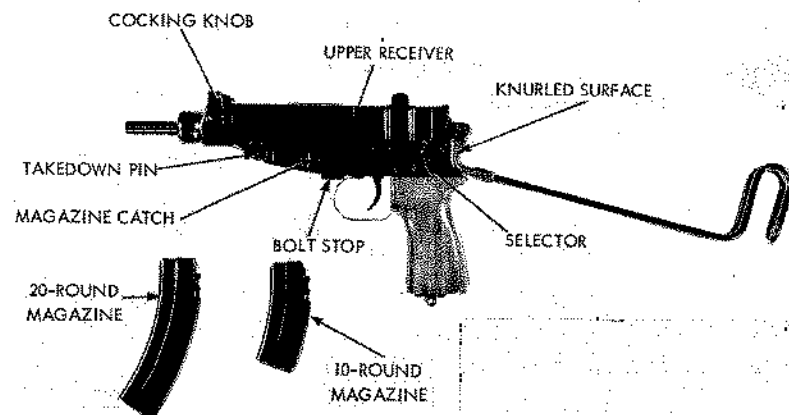
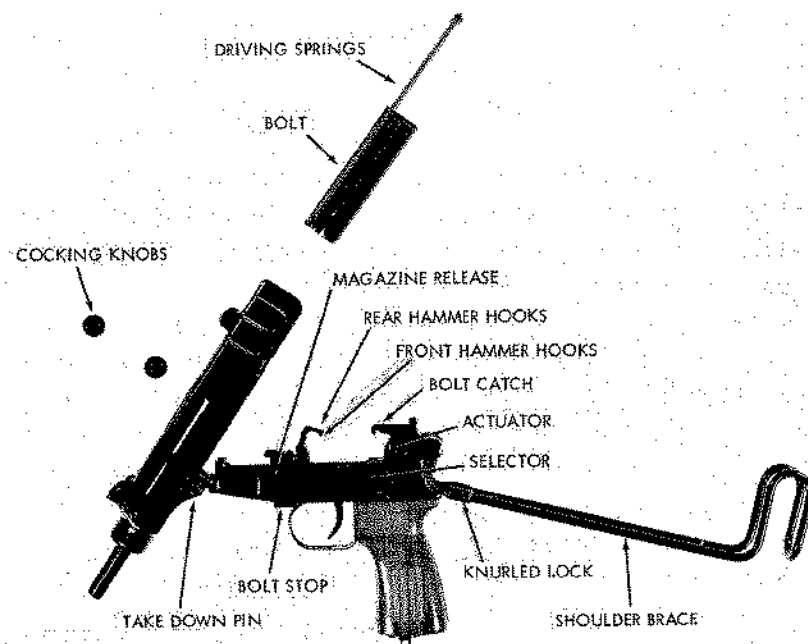

Figure 25. Czechoslovak Vz61 "Skorpion" machine pistol
Figure 26. Vz61 disassembled.
The Czechoslovak 7.65-mm Vzor 61 machine pistol (fig 25) Skorpion used by the Czechoslovak Army and Security Forces has also been offered for sale to other countries. This machine pistol, a blowback-operated, selective-fire weapon that uses 10- or 20-round box magazines, is equipped with a folding wire shoulder brace. The Skorpion, because of the mild recoil of its relatively weak 7.65-mm cartridge (sec VI) and the slow rate of fire due to a cyclic-rate reducer, is an effective, if underpowered, weapon.
b. Insure that the selector is not in its mid (0) position (safe); then insert a loaded magazine into the recess ahead of the trigger guard until the magazine catch (fig 25) engages the magazine. Using the thumb and forefinger, grasp the cocking knobs (fig 25), pull them fully to the rear, and release them. The bolt will return forward.
weapon automatically, or semiautomatically at longer ranges, best results are obtained by unfolding and using the shoulder brace. The shoulder brace is unfolded by pulling it out of engagement with the front sight guards and swinging it to the rear until the knurled lock snaps into place. The stock is folded by firmly pressing the knurled lock (fig 25) in, and swinging the brace forward into engagement with the front sight guards.
f. To clear the pistol, remove the magazine as in e above, retract the bolt fully and press up on the bolt stop (fig 25). The bolt will be held rearward by the bolt stop. Set the selector on "0" and examine the pistol to insure that no cartridges are present. Move the selector off "0", pull back on the cocking knobs slightly, and release them. Press the trigger, reset the selector to "0", and insert the magazine.
(1) Extend the shoulder brace (para 39c). Clear the pistol (para 39f), but do not insert the magazine, or set the selector at "0".
(2) Pull the takedown pin (fig 25) out to the left as far as possible; pull the upper receiver unit forward about three-sixteenths of an inch, and then swing the barrel down (fig 26).
(3) Retract the bolt fully to the rear and pull the cocking knobs (fig 26) out to the sides. Pull the bolt and the driving springs out of the receiver.
(1) Insert the bolt and the driving springs into the upper receiver. Align the elongated holes in the bolt with the enlarged portion of the slot in the upper receiver and insert the cocking knobs. Slide the bolt fully forward.
(2) Swing the upper receiver down into position on the lower receiver and slide it to the rear until the dismounting pin can be pressed back into position. Insert the magazine and fold the shoulder brace forward. Set the selector at "0" and insert the magazine.
b. If the selector is set for semiautomatic fire, as the hammer rotates the rear hammer hooks (fig 26) force the sear rearward against its spring. The bolt returns forward under the force of the driving spring and loads a cartridge from the magazine into the chamber. The sear holds the hammer cocked by means of the rear hammer hooks, but when the trigger is released, the sear swings rearward and releases the hammer. The hammer, under force of its spring, starts to swing forward, but is caught by the trigger sear, which catches the front hammer hooks (fig 26). If the trigger is pressed, another shot will be fired, and this action will be repeated.
d. As the bolt completes its rearward stroke, it strikes the actuator (figs 26 and 27); this causes the actuator to pivot on its pin. Two actions then occur: